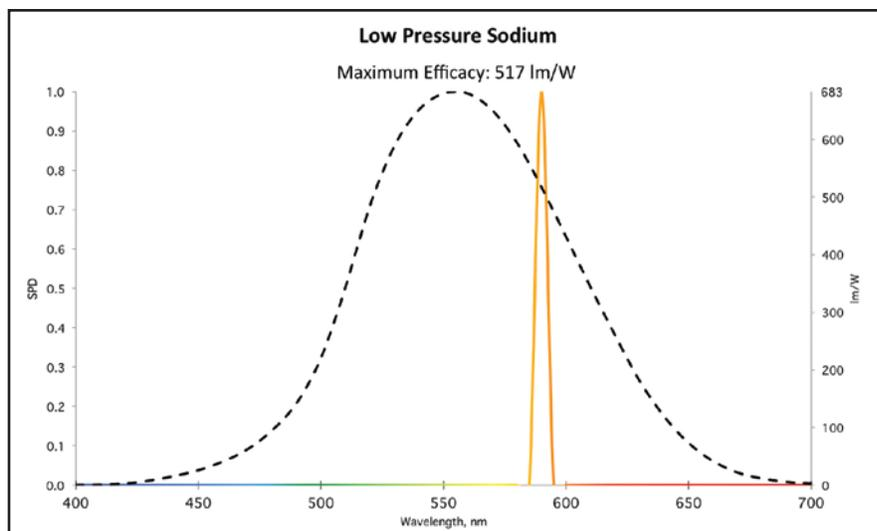

Figure 2 – Low pressure sodium
**Figure 2** shows the single orange spike